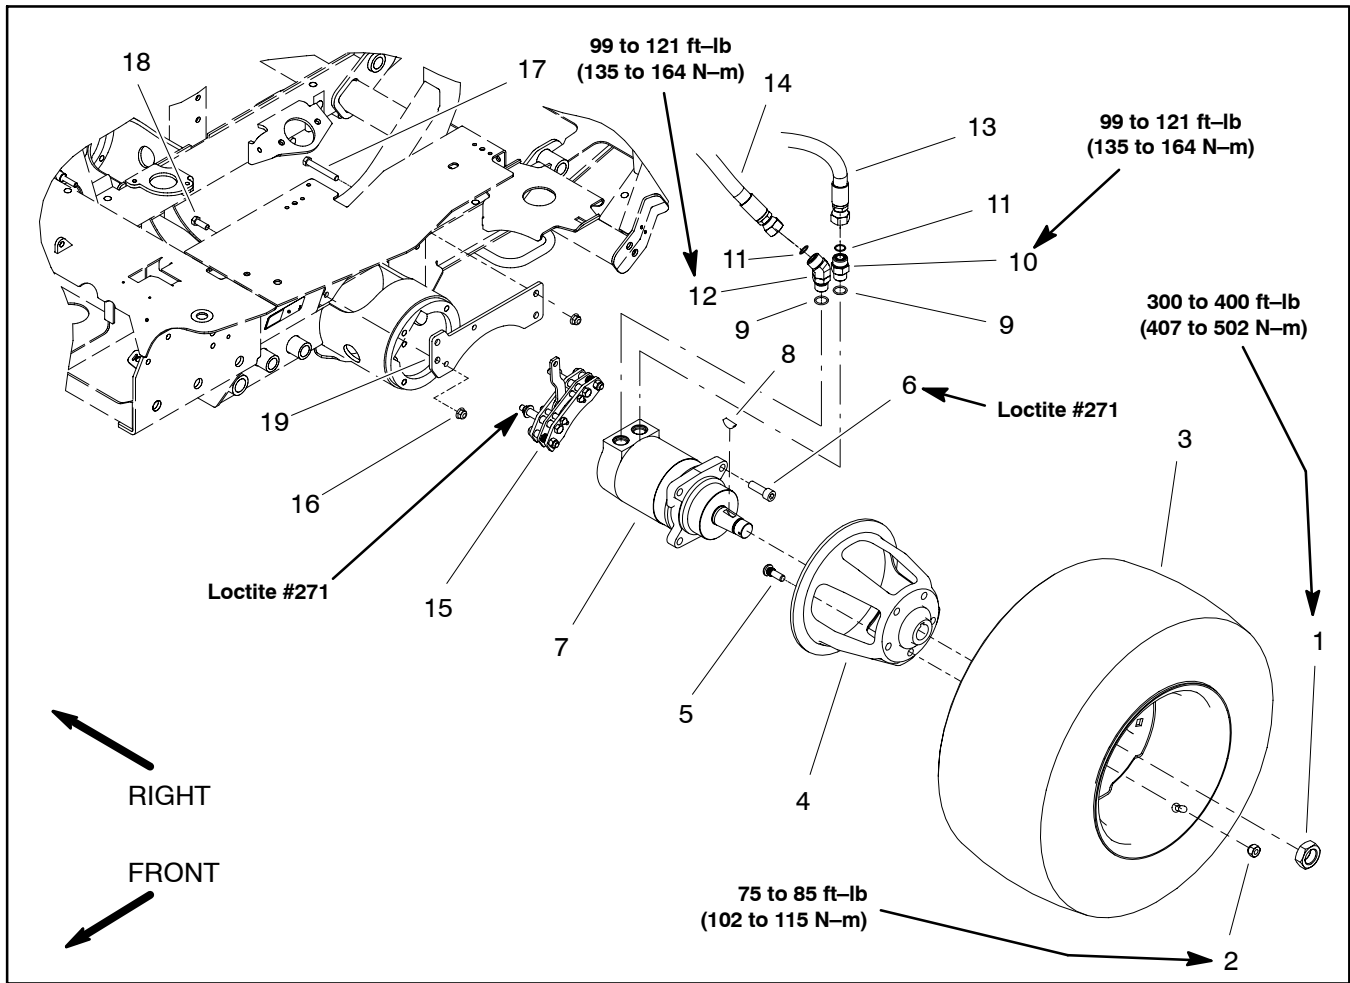
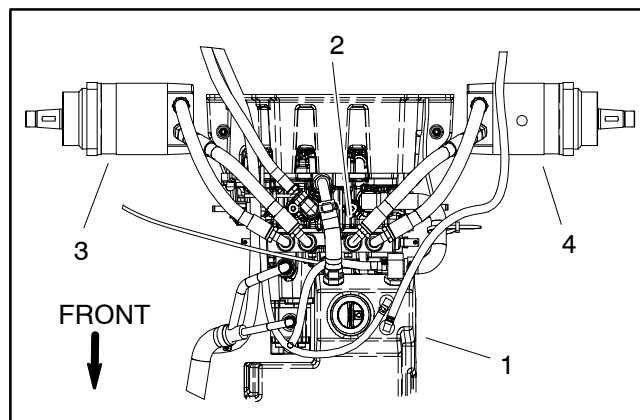

Figure 32
Figure 33
### Removal (Fig. 32)
8. Label all hydraulic hoses and fittings for assembly purposes (Fig. 33). Remove hydraulic hoses from fittings on wheel motor. Allow hoses to drain into a suitable container.
12. Remove four (4) socket head screws that secure wheel motor to the machine.
**Installation (Fig. 32)**
3. Apply Loctite #271 (or equivalent) to threads of socket head screws. Secure wheel motor to frame with four (4) socket head screws.